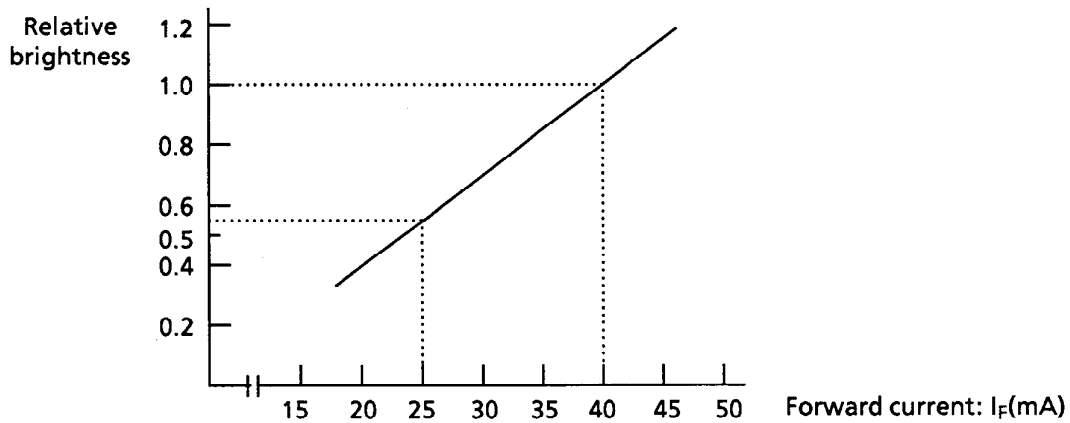

Figure 12 Forward Current-Brightness Characteristics ( $T_a = 25^\circ\text{C}$ )
For this resistance value, the forward current becomes lower than 25 mA at 25°C. The surface brightness of the LED backlight varies with the forward current. See Figure 12. Compared with 1.8 (4) brightness ( $I_F = 40$  mA), the brightness is about 40%.